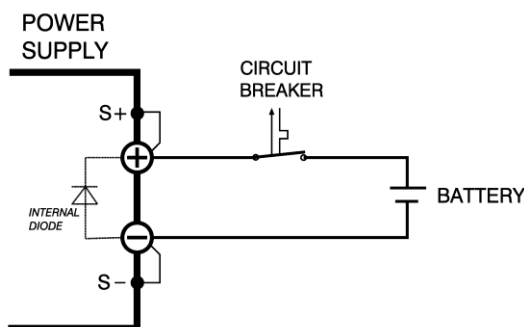

Figure 7.13: Charging battery with a circuit breaker in series to protect the internal diode.
- Use a Circuit Breaker in series to protect the power supply from accidental reverse connection, see Figure 7.13. However in the case polarity reversal when connection a battery, this protection measure may become overloaded.